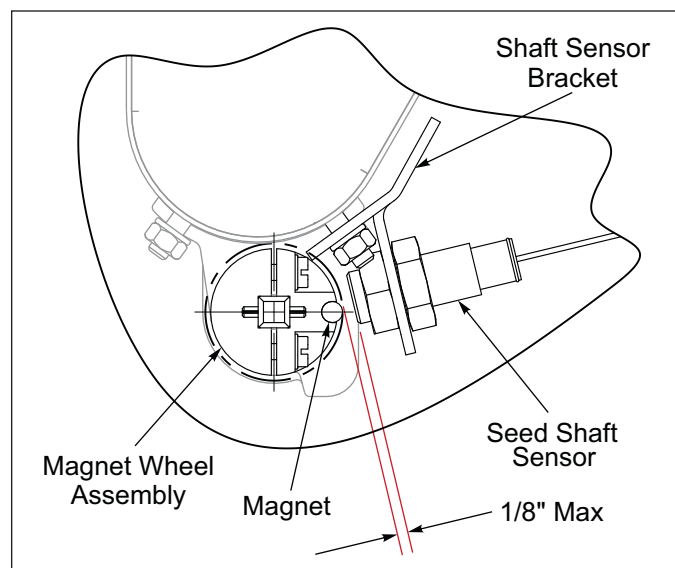

Figure 2-36: Console w/Clutch Control - Seed Shaft Sensor Detail
6. Slide/Position Seed Shaft Sensor so it is 1/8" from the magnet. **See Figure 2-36.** Tighten both retaining Locknuts.